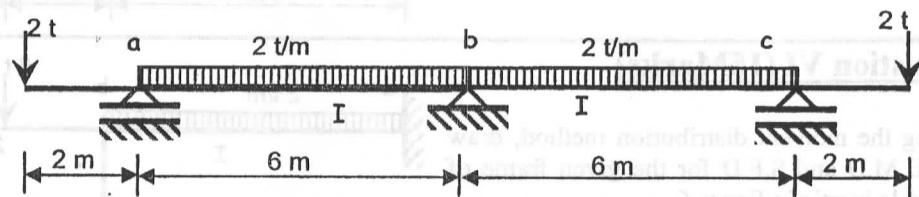

Figure 1
Using the force method, draw the bending moment and shear force diagrams for the shown symmetric continuous beam in Fig. 1. $EI = \text{constant}$.
(A) Fig. 1 shows a plan of a typical floor of RC flat slab with panel 6.4×7.6 m and slab thickness 0.25m ($t_s = 250$ mm) without drop panel and with column head $1.60 \text{m} \times 1.60$ m. The flat slab is resting on square columns $0.6 \text{m} \times 0.6$ m. The marginal beams 0.3×0.9 m are used at the outer edges of the flat slabs. The flat slab is subjected to uniformly ultimate (factorized) load, $W_u = 21 \text{kN/m}^2$. **Materials:** $f_{cu} = 30 \text{MPa}$, $f_y = 360 \text{MPa}$. Using the empirical method of the Egyptian code of practice for design of flat slab, it is required to carry out the following: